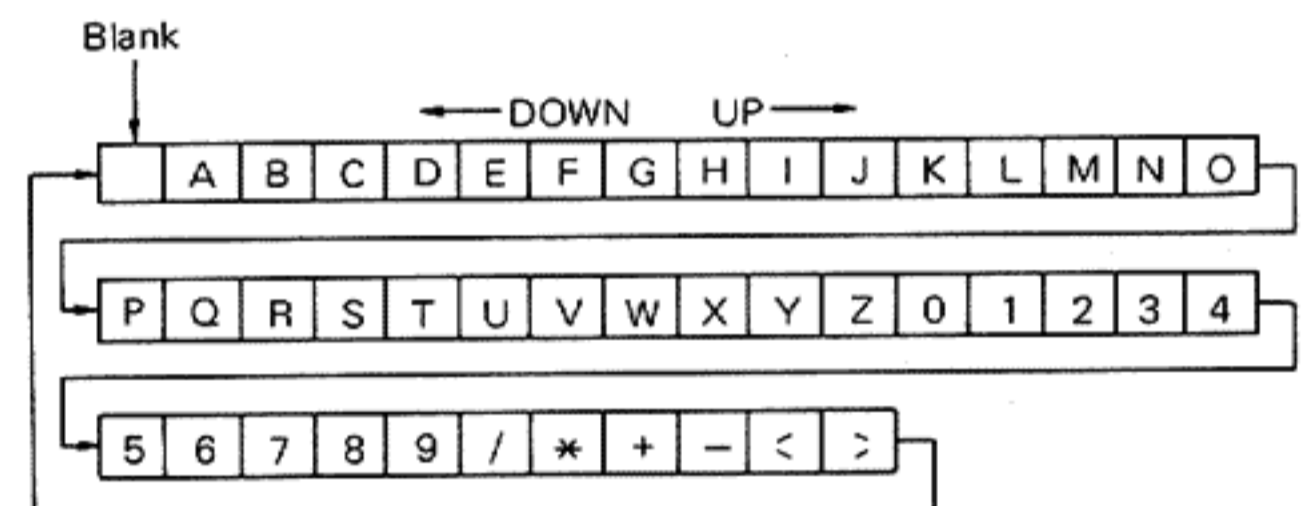

Fig. 17
2. Select the desired character using DOWN/UP buttons. (The character will change in the order shown in the Fig. 17 when the DOWN/UP buttons are pressed.) Press CHARACTER button again so that the second character blinks.